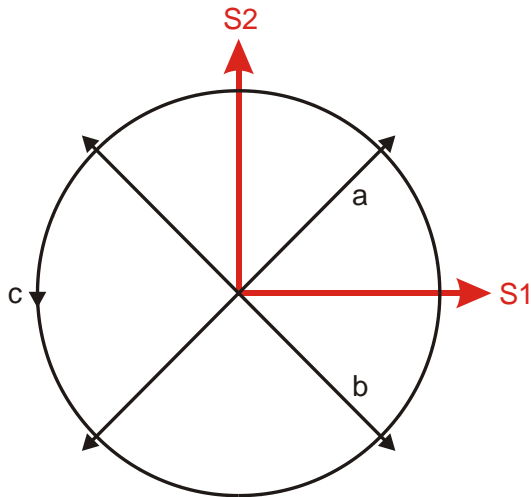
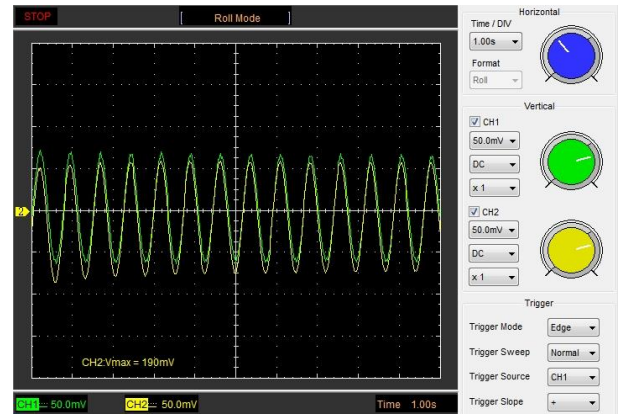
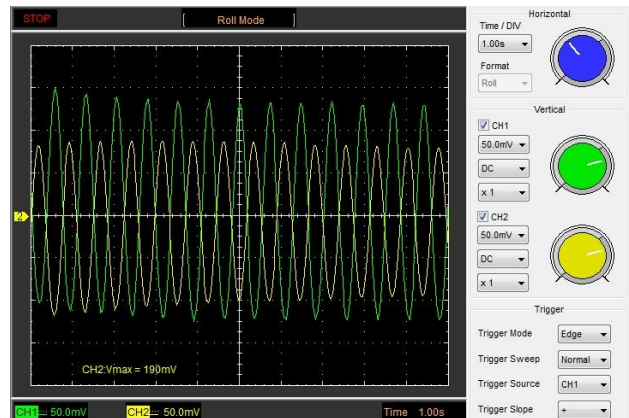

Fig. 2: The alignment of sensors S1 and S2, including the oscillation directions of the string pendulum under investigation
Fig. 7: Oscillation components for a string pendulum swinging along the line bisecting the two force sensors
Fig. 8: Oscillation components for a string pendulum swinging along the line perpendicular to that bisecting the two force sensors
- Slightly deflect the string pendulum and allow it to oscillate in a plane which bisects the alignment of the two force sensors (oscillation path a in Fig. 2). Observe the oscilloscope trace and save it.
- Slightly deflect the string pendulum and allow it to oscillate in a plane which is perpendicular to the one which bisects the two force sensors (oscillation path b in Fig. 2). Observe the oscilloscope trace and save it.
- Slightly deflect the string pendulum and allow it to oscillate in a circle (oscillation path c in Fig. 2). Observe the oscilloscope trace and save it.
When the pendulum is oscillating in the plane of the bisecting angle between the sensors, the two sensors will experience symmetric loading (oscillation path a in Fig. 2). The signals from the two force sensors will be in phase, i.e. the phase shift between them will be  $\phi = 0^\circ$  (Fig. 7).
When the pendulum is oscillating in the plane perpendicular to the bisecting angle between the sensors, the two sensors will experience asymmetric loading (oscillation path b in Fig. 2). The signals from the two force sensors will be wholly out of phase, i.e. the phase shift between them will be  $\phi = 180^\circ$  (Fig. 8).